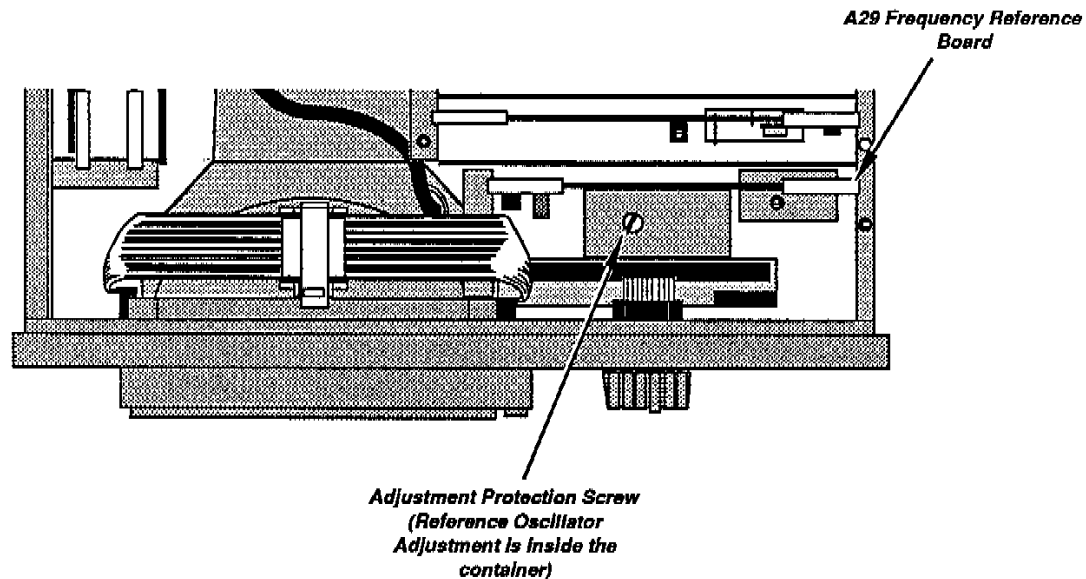

Figure 3-9. Reference Oscillator Adjustment.
6. Remove the adjustment protector screw from the reference oscillator container to expose the REFERENCE OSCILLATOR adjustment. This container is located on the Frequency Reference board (shown in Figure 3-9).